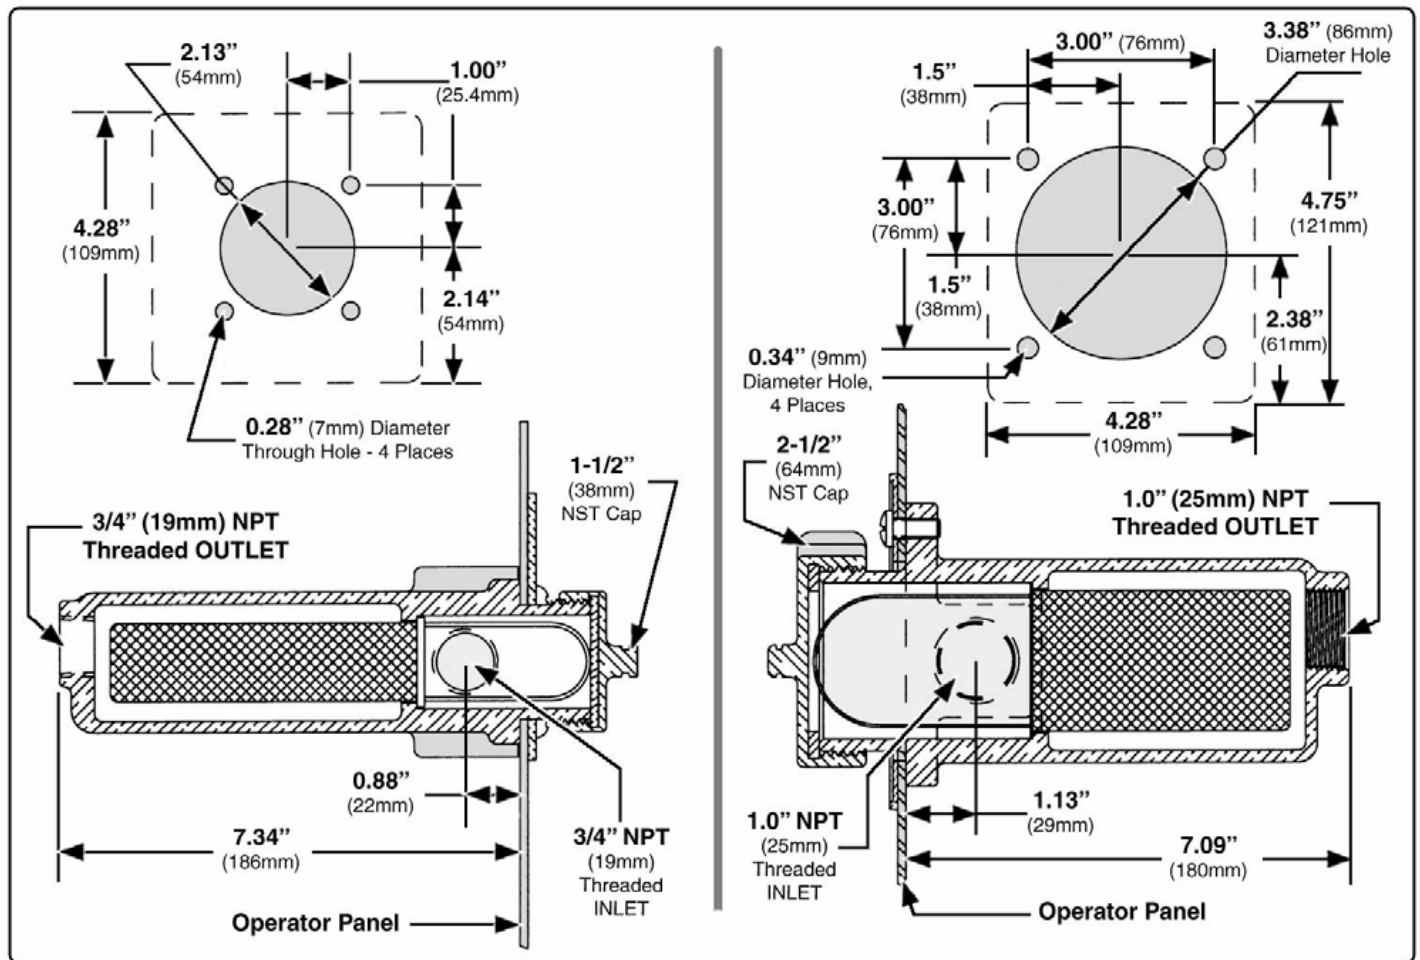

Figure 36: FS Strainer Mounting Dimensions
4. Mark holes for mounting the foam strainer by using the nameplate as a guide, or refer to **Figure 36**.